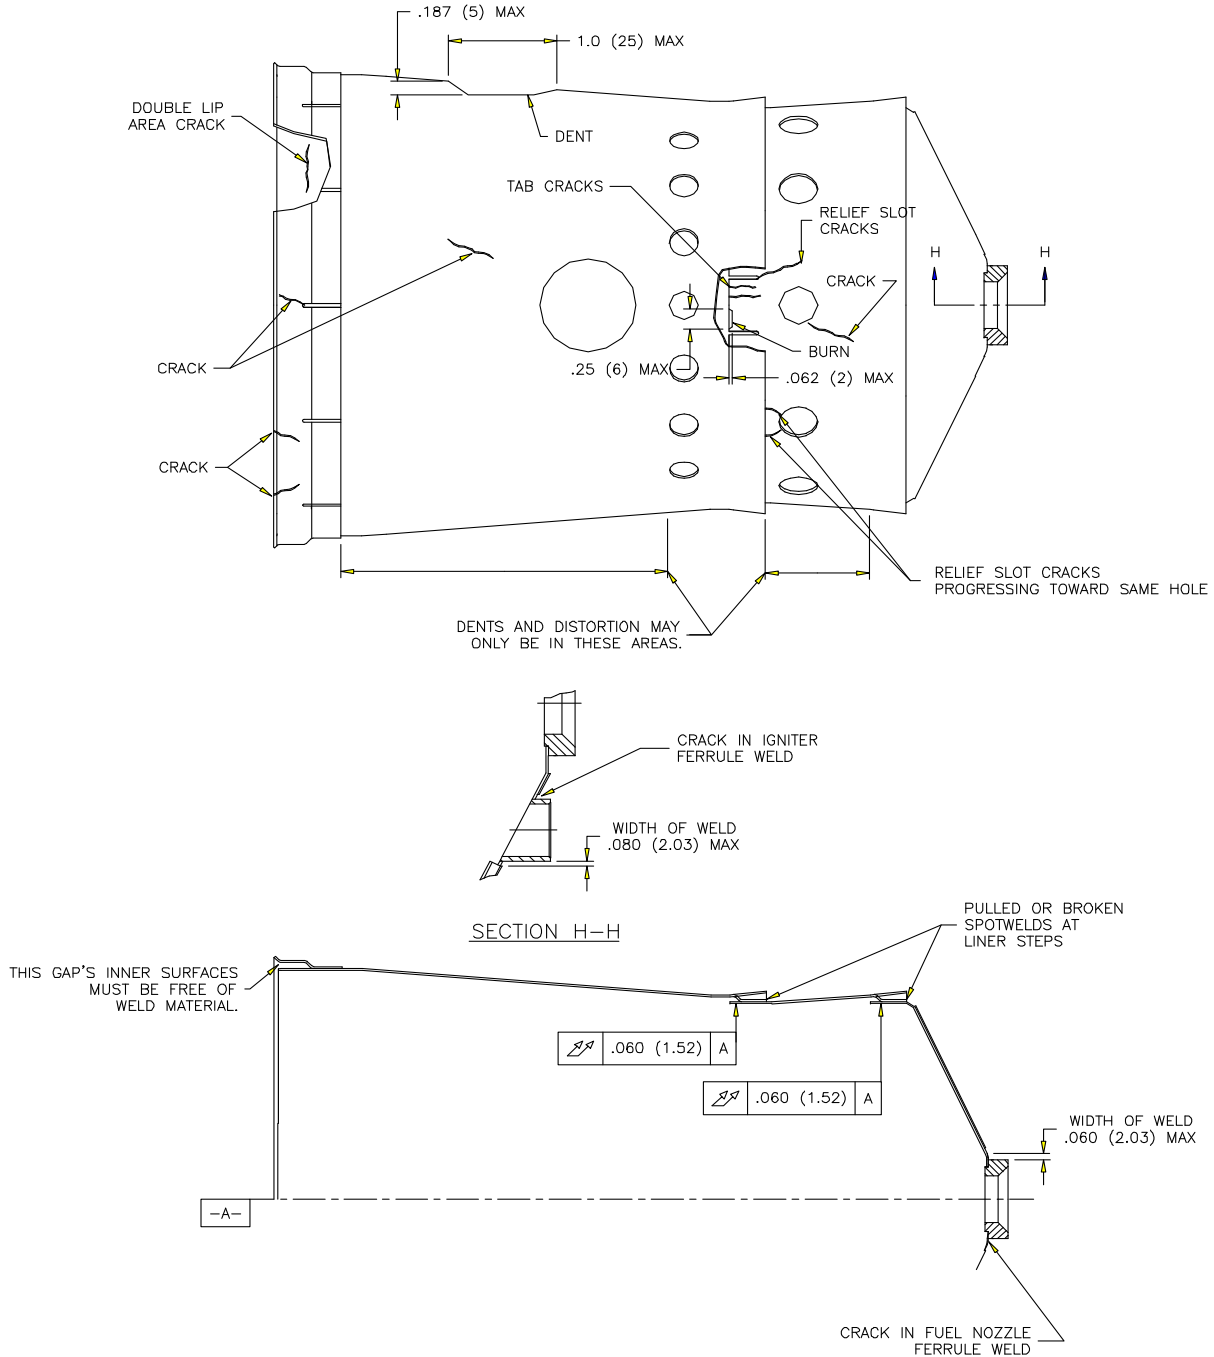

FIGURE 1
A. Cracks (ref. Fig. 1)
B. Physical Deformations (ref. Fig. 1)
C. Thermal Distress / Erosion (ref. Fig. 1)